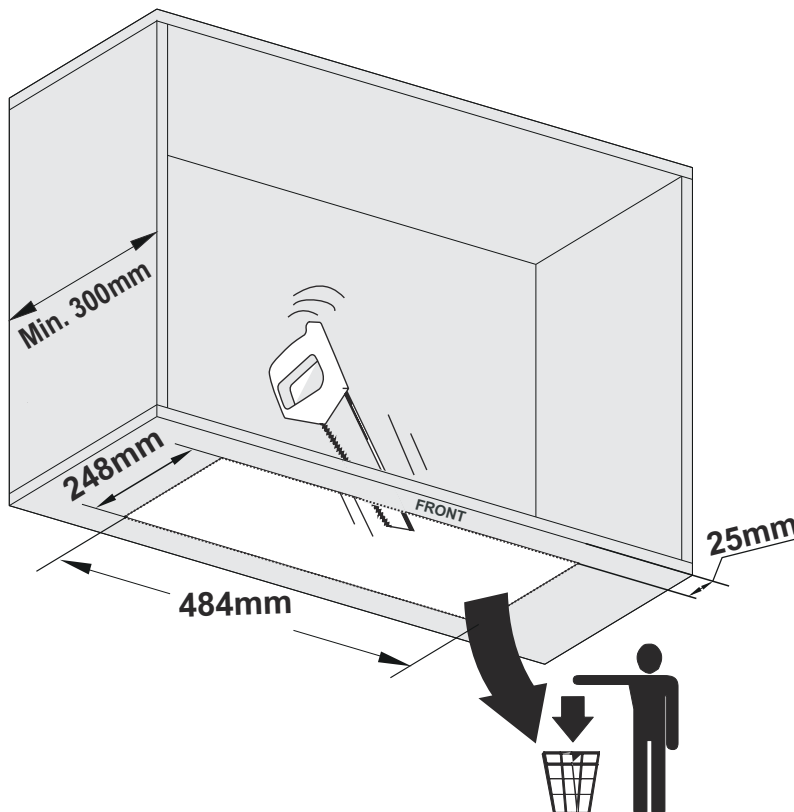

Fig. 12
1. ➔ The bottom of the cabinet where the hood will be installed Cut the surface according to these dimensions (Fig. 12).